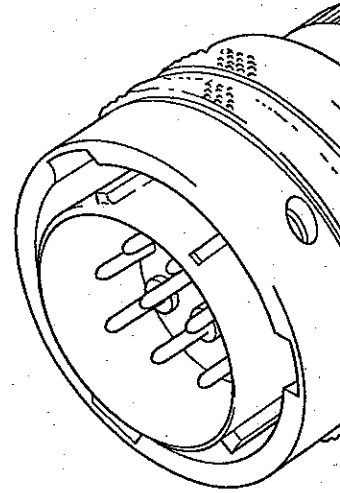

Fig 12 466 Straight plug
11.1 The 466 straight plug (Fig 12) is a free unit with crimped type contacts and conforms to MS3126 specification.